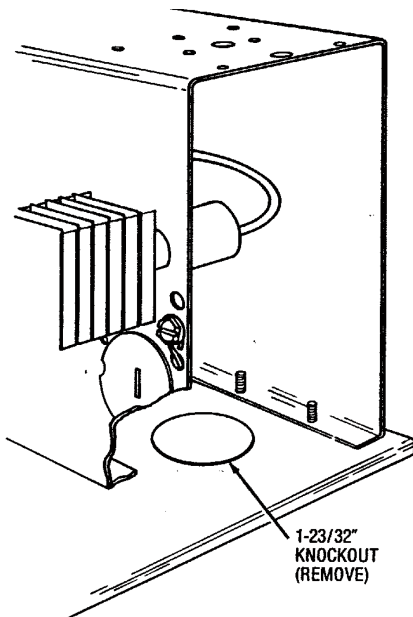

Figure 7
2. Remove the 1-23/32" knockout from the bottom of the heater at each end and at other location where pedestals are to be installed. (Figure 7.)